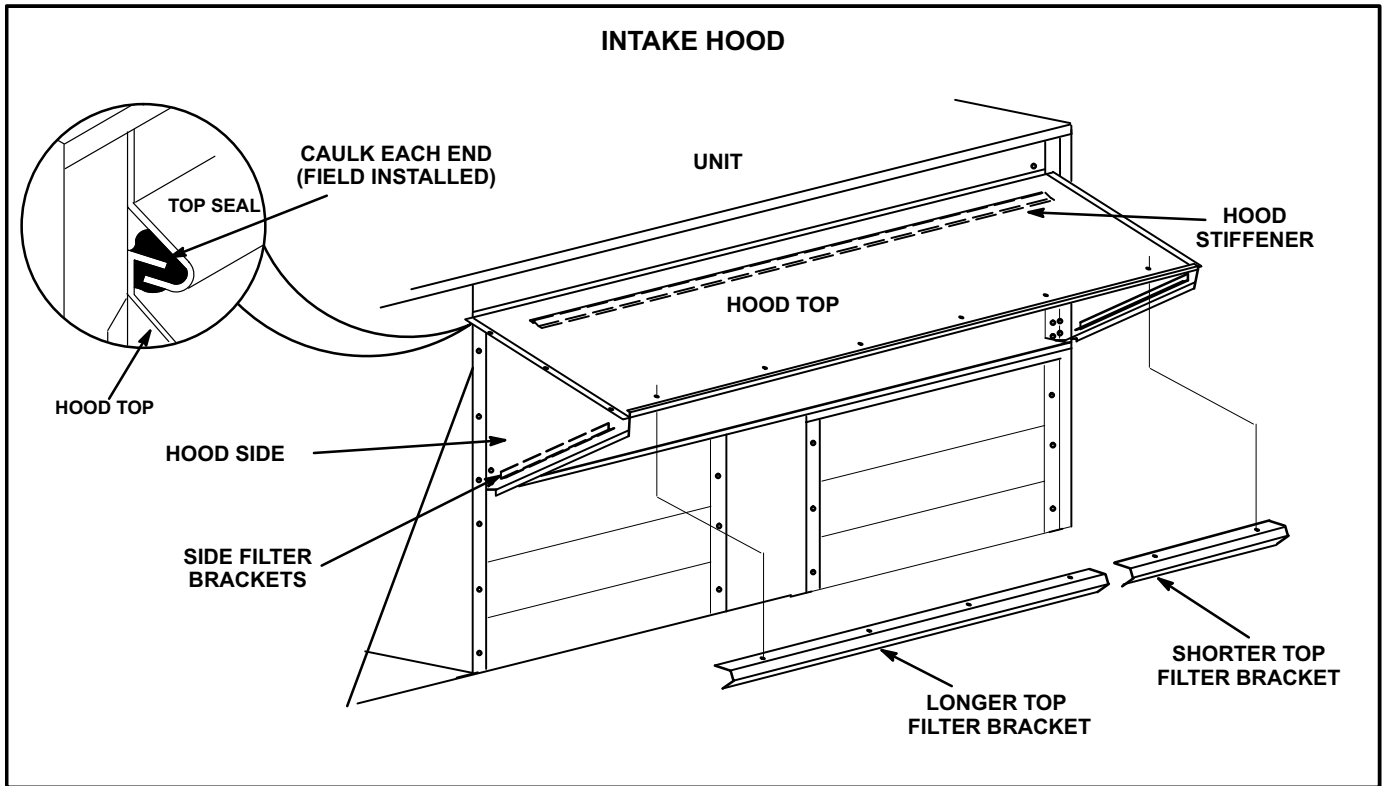

FIGURE 8
- 1- Remove screws securing side flanges of top hood to unit. See figure 8.
- 2- Pivot top hood open and secure sides of intake hood to top of hood using three sheet metal screws on each side. See figure 8.
- 6- Secure the longer top filter bracket to top of hood as shown in figures 8 and 9. Install two filters.